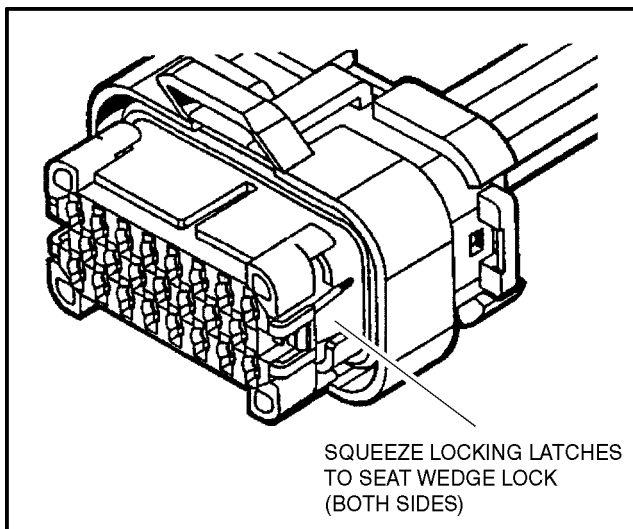

Figure 7-10. Connector Assembly Figure 3
3. After all required contacts have been inserted, the wedge lock must be closed to its locked position. Release the locking latches by squeezing them inward. (See Figure 7-10.).